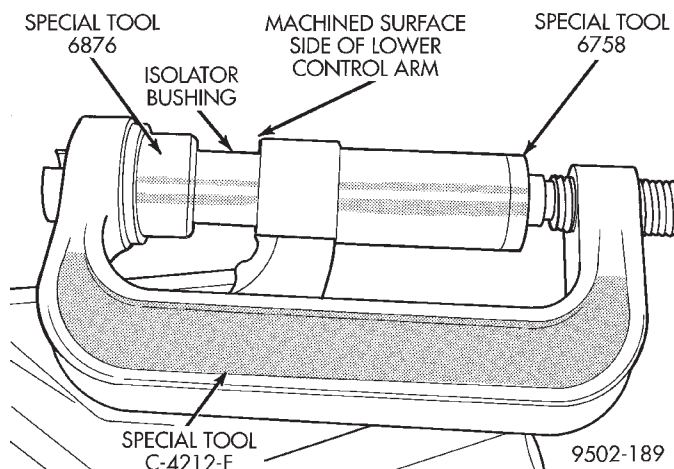

Fig. 100 Installing Front Bushing In Lower Control Arm
(1) Mount Bushing Installer, Special Tool 6876 on screw portion of Remover/Installer Special Tool C-4212-F (Fig. 100).
(2) Start front bushing into lower control arm **by hand, making sure it is square with its mounting hole in the lower control arm**. Bushing is to be installed in lower control arm from the machined surface side of lower control arm bushing hole.
(3) Install lower control arm on Special Tools assembled for installation of front isolator bushing into lower control arm (Fig. 100). Be sure Special Tool 6758 is square on lower control arm and Special Tool 6876 is positioned correctly on isolator bushing.